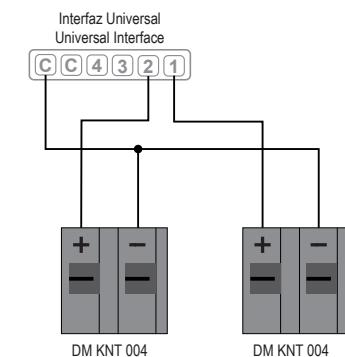

Fig. 5
- Fig. 5: connection of two detectors to two different inputs.
- Fig. 5: conexión de dos detectores a dos entradas diferentes.